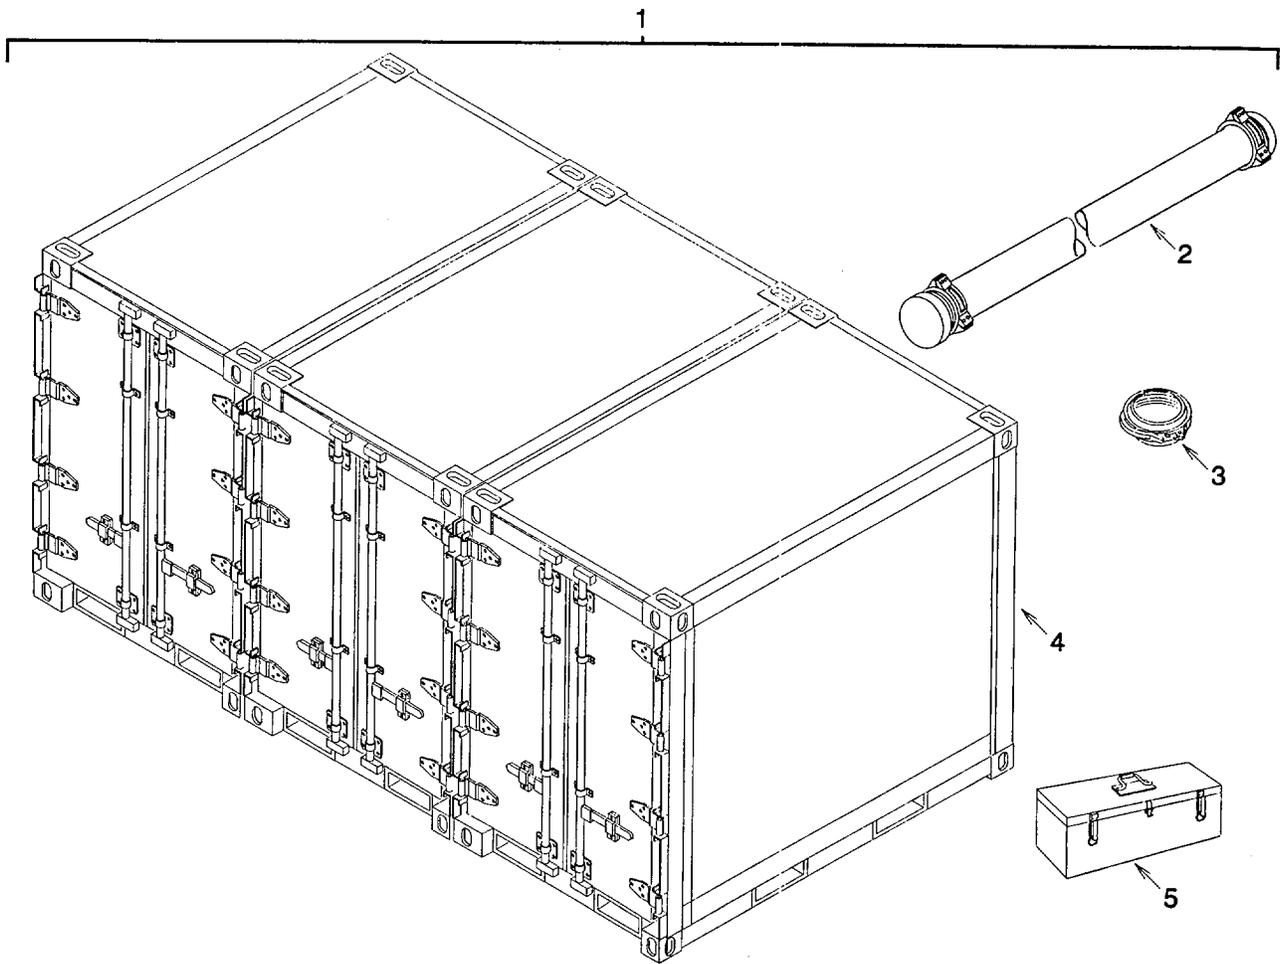

Figure C-11. Transfer Hose Assembly ,6 Inch
* See fig C-11 This assembly is part of Transfer Hoseline Assembly, 6 inch